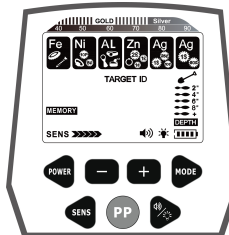

Fig.11
- Press the MODE button again, and the MEMORY cursor is lighted. And the target discrimination cursor is all lighted. (see Fig.11)
- e. If you want to search for other material metals, press the "MODE" button again. The MEMORY cursor still lights up, and still shows the same as Fig.11. Then repeat the above operation.
- f. To quit the MEMORY mode, press the MODE button, making the detector return to the state of Fig.11. Then press the MODE button again, to quit the MEMORY mode, and enter the next operation mode.